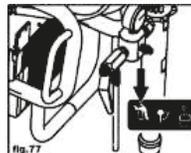

fig.77
- Turn "spray/prime" switch to "spray" mode (fig.77)